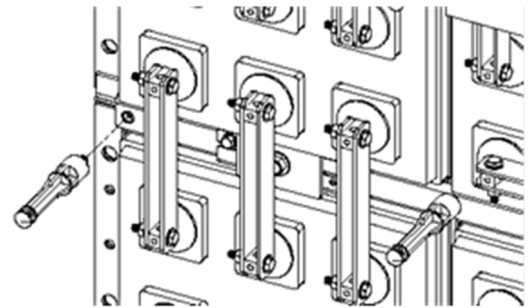

FIGURE 13
1. Install ALL safety shield standoffs into modules as shown in Figure 13.